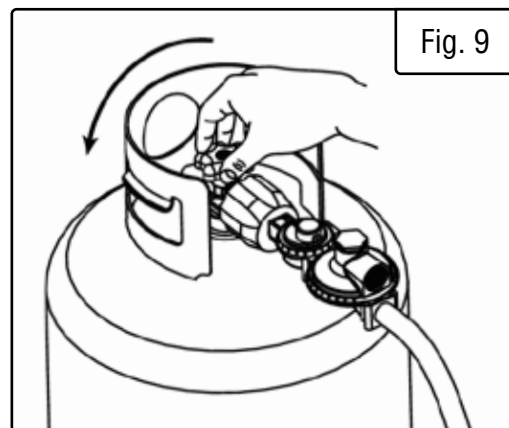

Fig. 9
4. Turn the LPG tank valve ON (Fig. 9) and check for leaks by spraying soapy water to check connections. If bubbles appear, become larger in size, or increase in number, a leak exists. This **MUST** be corrected before using generator. Contact WEN customer service at **1-800-232-1195**, M-F 8-5 CST, or email techsupport@wenproducts.com for assistance.